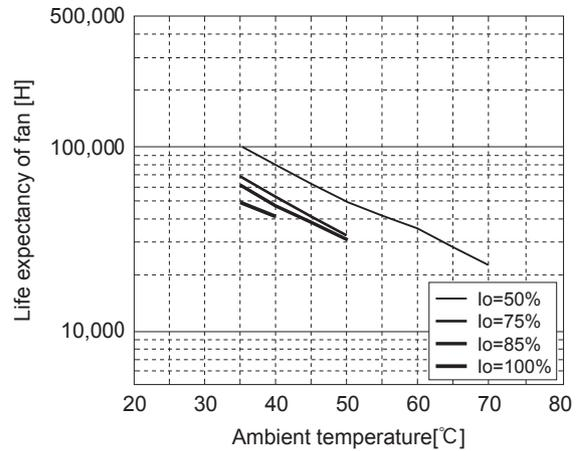

Fig.3.3 Life expectancy of fan of FETA3000BC
■ Life expectancy (R(t)=90%) of fan depends on use conditions as shown in Fig 3.3.